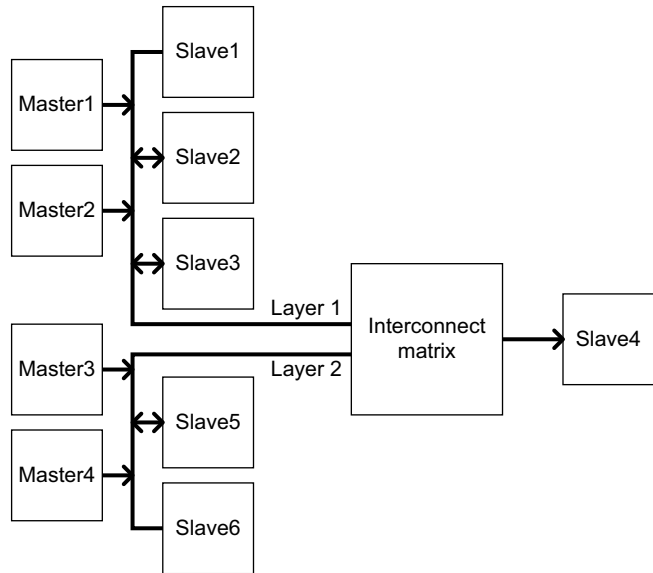

Figure 1-6 Separate AHB subsystems
- Each layer can be a complete AHB subsystem, with the interconnect matrix being used to enable communication between the two subsystems. The example in Figure 1-6 shows only a single slave is shared. Typically this is an on-chip memory slave that is used as a buffer area between the two subsystems.